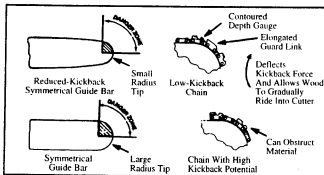

Figure 8
- **Low-Kickback Chain**, designed with a contoured depth gauge and guard link which deflect kickback force and allow wood to gradually ride into the cutter. Figure 8. Low-Kickback Chain is a chain which has met kickback performance requirements of American National Standards Institute, Inc. (ANSI) B175.1 (Safety Requirements for Gasoline-Powered Chain Saws) when tested on a representative sample of chain saws below 3.8 cubic inch displacement specified in ANSI B175.1.
- **Reduced-Kickback Guide Bar**, designed with a small radius tip which reduces the size of the kickback danger zone on the bar tip. Figure 8. A Reduced-Kickback Guide Bar is one which has been demonstrated to significantly reduce the number and seriousness of kickback when tested in accordance with ANSI B175.1.